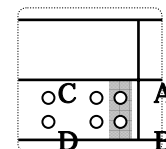

Figure 3: Slave drive
- Figure 3 shows the slave setting